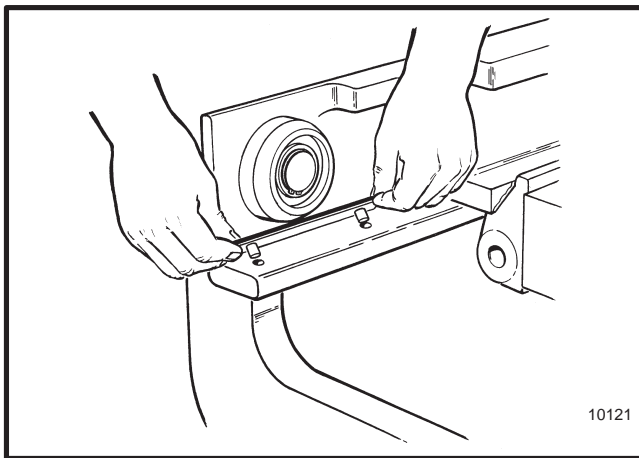

FIGURE 12. STRIP BEARINGS
2. Install the strip bearings and the shims on the channels of the outer weldment. See FIGURE 12. Apply grease to the bearing surfaces. Check the clearance of the strip bearings as described in **CHECKS AND ADJUSTMENTS**.